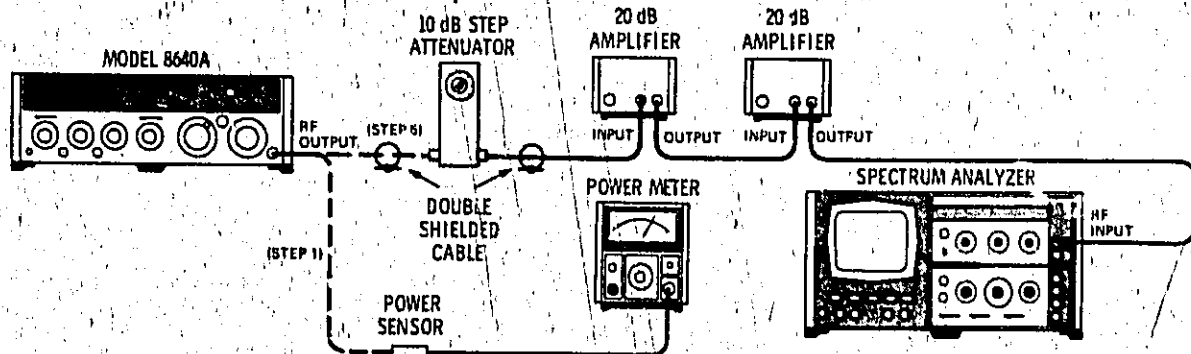

Figure 4-7. Output Level Accuracy Test Setup (Option 003)
1. Connect equipment as shown in Figure 4-7 after setting Signal Generator's controls as follows: